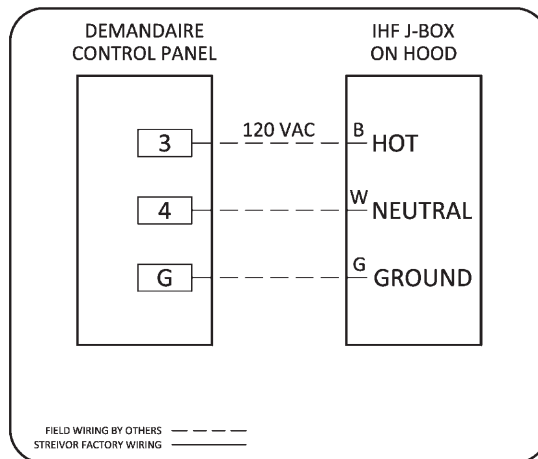

**FIGURE 6: Light Power Circuit Wiring**
- Connect 120 VAC single phase power from terminal block 11 (hot), terminal block 12 (neutral), and *ground* in the control panel to the wires labeled “Lights” in the junction box on the hood (Figure 6).